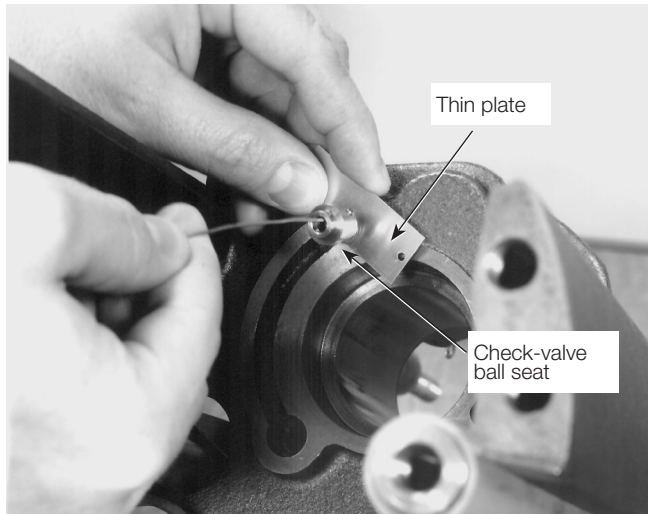

Figure 10. Trip piston removal
5. To remove trip piston assembly, see Figure 10: